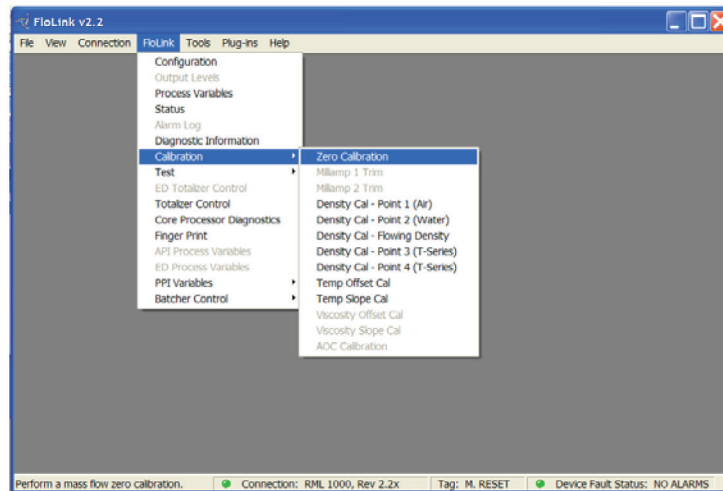

FIGURE 5.10
10. Click *Prolink*, then *Calibration - Zero Calibration* (see Figure 5.10).